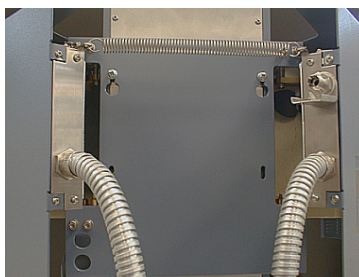

Figure 5.15
4. Ensure that the two top screws (A and B in Figure 5.15) are fitted with washers and are located in place—but make sure that they are almost totally unscrewed (two turns in).
6. Insert the final two screws (C and D in Figure 5.15).